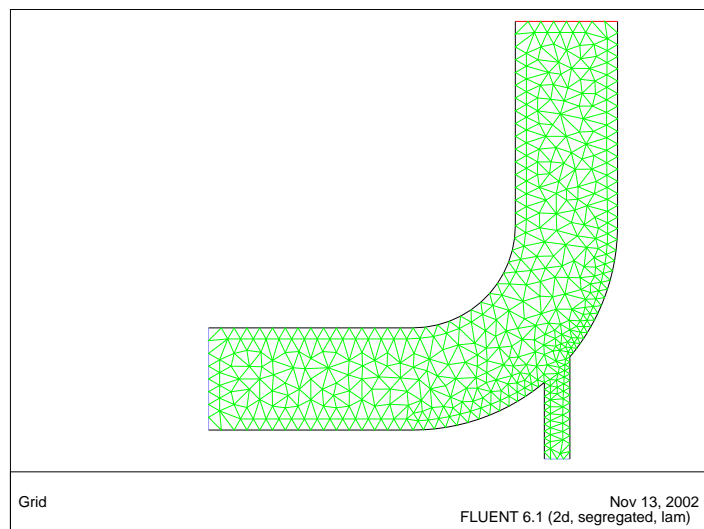

Figure 1.2: The Triangular Grid for the Mixing Elbow
5. Display the grid (Figure 1.2).